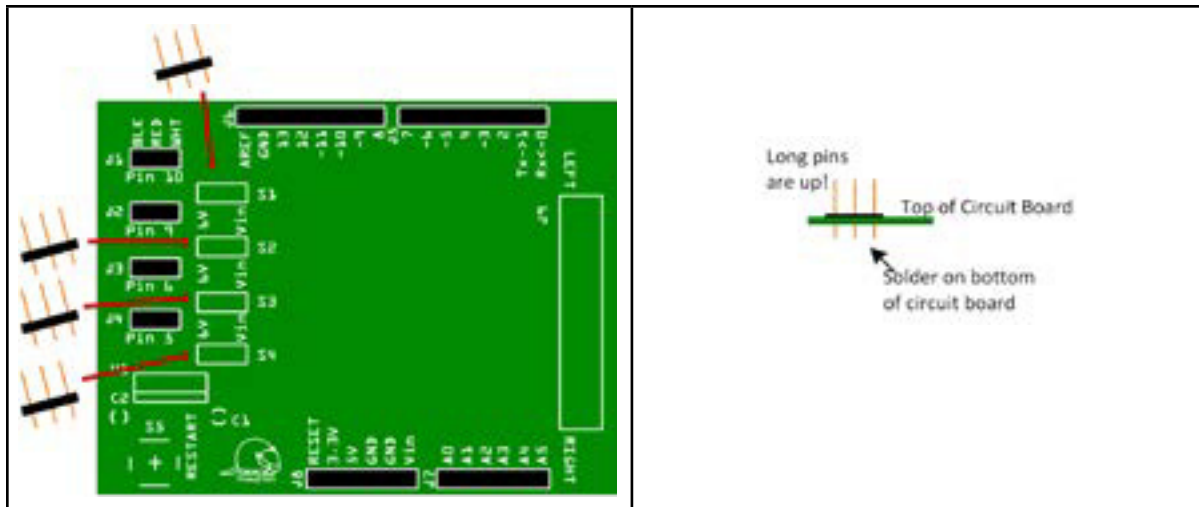

Figure HT3-9. Location to insert and solder male headers
- Insert and solder the four male headers into the top of the circuit board through locations marked S1, S2, S3, and S4. See Figure HT3-9.